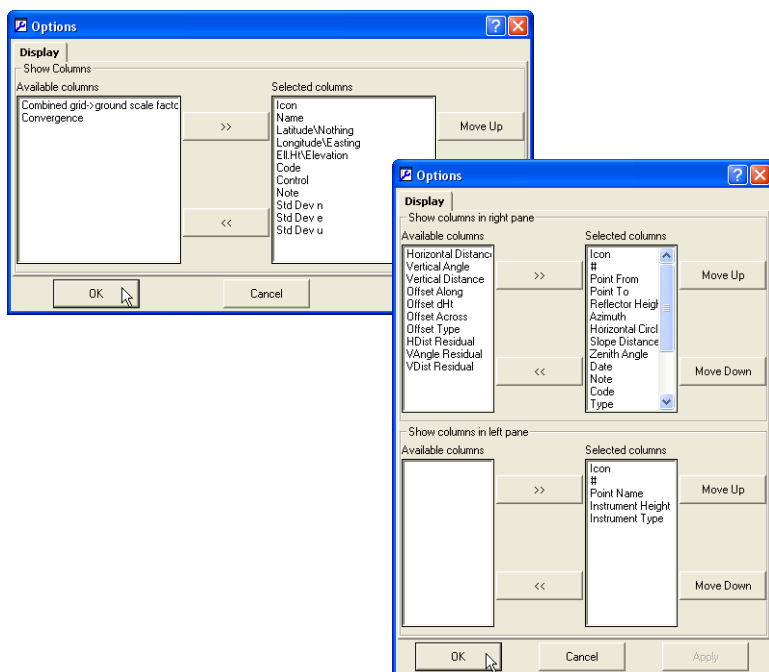

Figure 4-59. Example Tab Options for Points and TS Obs
2. Select and arrange the desired columns (Figure 4-59 on page 4-58).